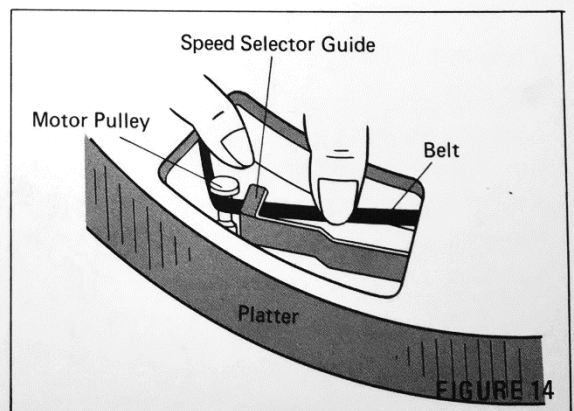

FIGURE 14
- (1) Remove the rubber turntable mat. Disengage the belt from the speed selector guide and motor pulley through the cutout in the platter. (See Figure 14.)